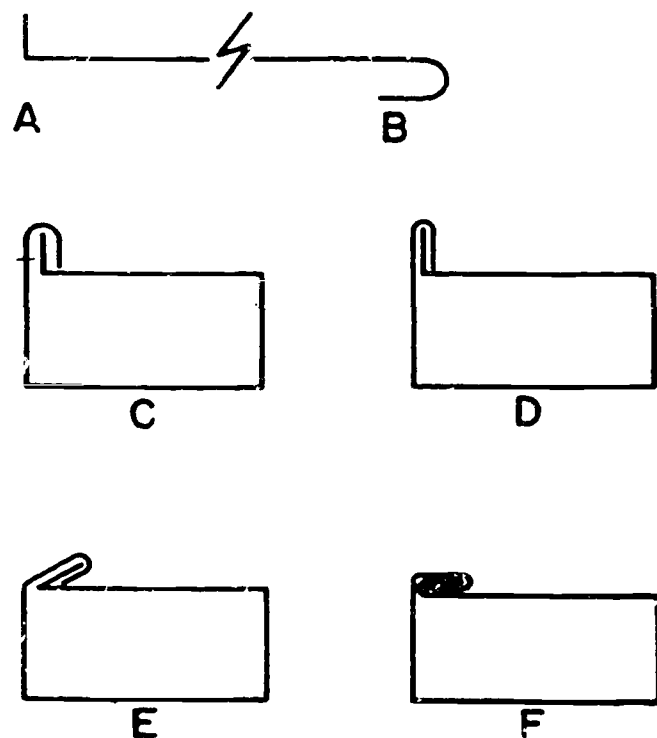

Figure 2-7. Making a corner double seam for articles with square corners.
**Corner double seam.** A corner double seam can be partially made on a bar folder or cornice brake, depending on the length of the component. For example, suppose you must make a 1/4-inch double seam on a 24-gage square duct. Before the duct can be formed into a square shape, you must form the two parts of the seam, which are shown in steps A and B of figure 2-7. If the duct joints are 20 inches or less in length, you can make the bends for the double seam on a bar folder by setting the depth gage bar for 1/4 inch,
bending one edge 90°. and bending the opposite edge 180°, as shown in steps A and B. Make these bends first because they are difficult to make after the joint is formed into a square. To form the joint into a square, use the cornice brake to bend the metal 90° along each of the three element (brake) lines. After you have made these bends, join the edges as shown in step C of figure 2-7. The next step is setting down the seam as shown in D.
You can do this setting-down operation with a setting hammer or with the cornice brake. If you use a setting hammer, you must have a backing plate or suitable bench stake. In step E of the illustration, the corner double seam begins to take shape. Bend the seam over with a mallet on the square end of a solid mandrel stake. When completely set down, the corner double seam will be like the one shown in step F of figure 2-7. As with other lock seams, indentations made with a center punch will keep the seam from slipping.